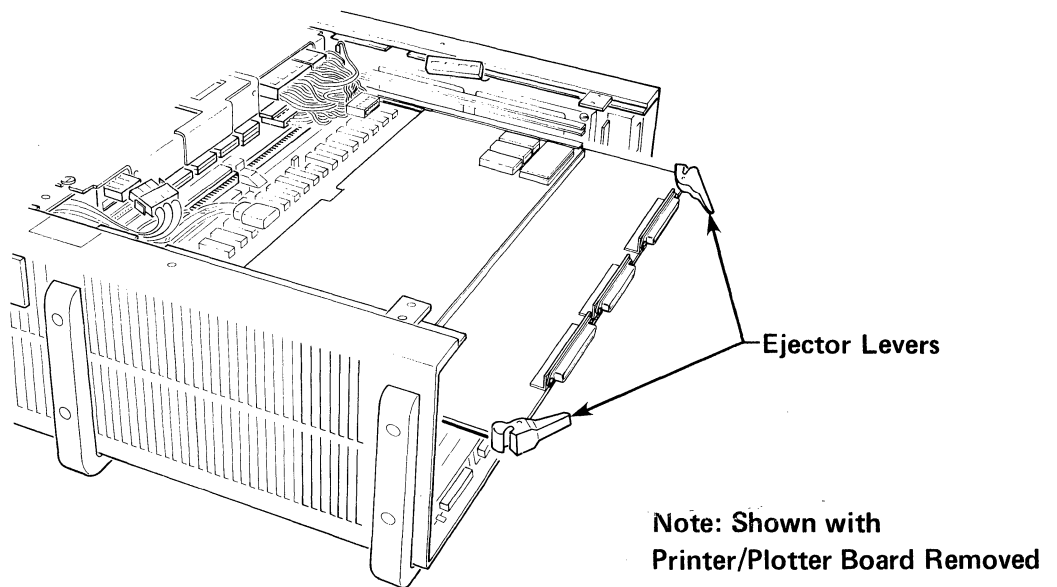

Figure 1-11. Hard Disk Controller Board Installation
8. Slide the hard disk controller board into one of the free positions in your processor. NOTE : If your system is also equipped with an optional memory board, the hard disk controller board must be positioned above that board (See Figure 1-11.)